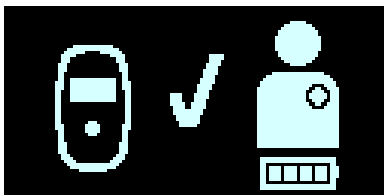

Figure 17: IPG Charging Successfully Completed Screen
9. When the battery of your OPTIMIZER Smart Mini IPG is fully charged, your Guardio Charger will emit 3 short beeping tones and display the IPG Charging Successfully Completed screen, indicated by the flashing checkmark in the center of the screen (see **Figure 17**). Your Guardio Charger will then shut off automatically.